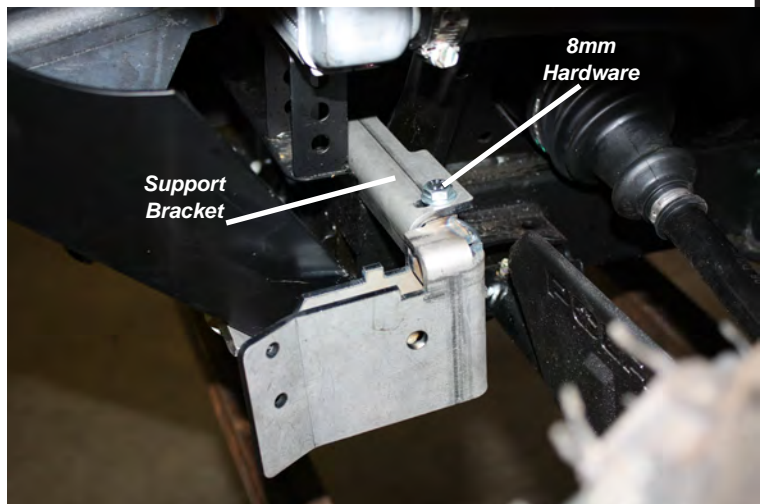

Figure 3
3. Slide support bracket through vehicle frame on top of mount in orientation shown in Figure 3. Secure bracket to mount using 8mm hardware. Once this bracket is in place all hardware can be tightened and torqued in place per specifications on page 2.